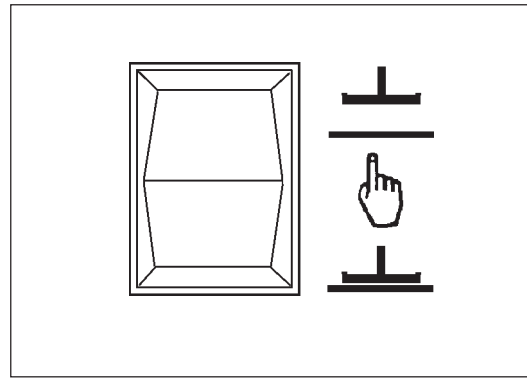

Figure 25
1. To lower the squeegee and start the vacuum motor, press the squeegee up/down switch to the down position (figure 25). **NOTE: The vacuum motor will start immediately when the down position of the switch is pressed, and the squeegee will lower.**
2. To raise the squeegee, press the squeegee up/down switch to the up position (figure 25). The squeegee will then raise and the vacuum motor will shut off after short delay **NOTE: The center position of the squeegee up/down switch is for use with one touch control.**